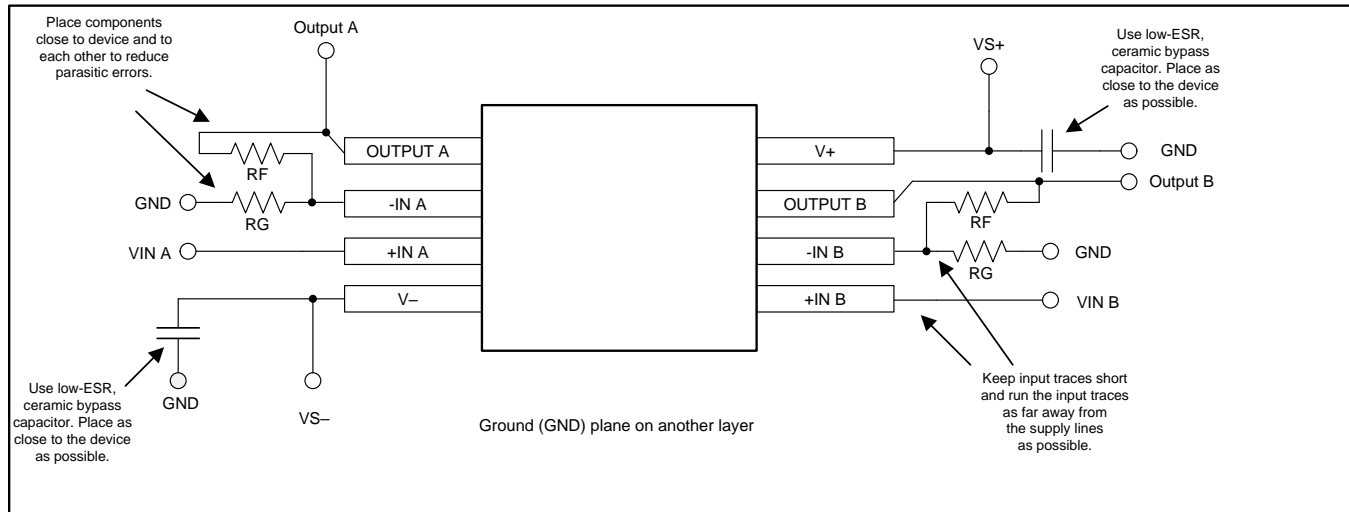

图 64. Operational Amplifier Board Layout for Noninverting Configuration
- Place the external components as close as possible to the device. As shown in Figure 64, keeping R_F and R_G close to the inverting input minimizes parasitic capacitance.